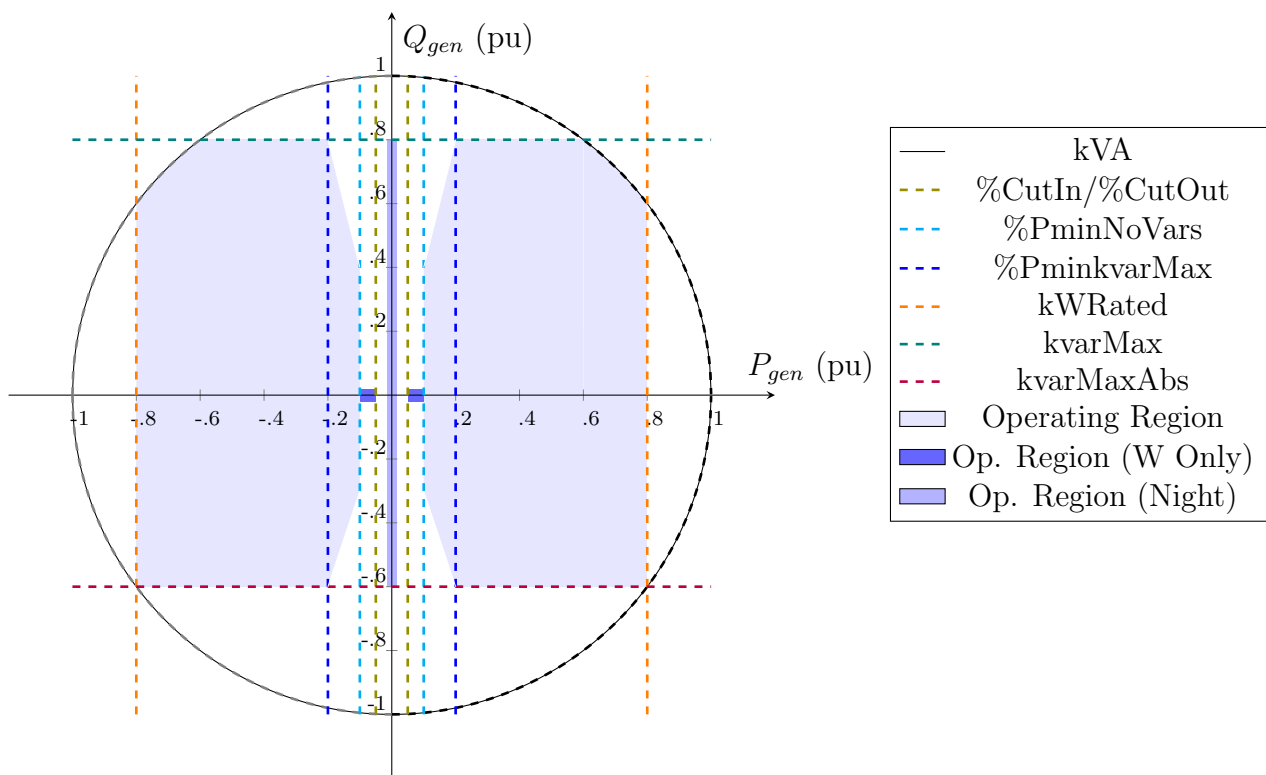

Figure 19: General Inverter Capability Curve
(8) kVA	Indicates the inverter nameplate capability (in kVA). Used as the base for Dynamics mode and Harmonics mode values. See Figure 19.
(9) %CutIn	Cut-in power as a percentage of inverter kVA rating. It is the minimum DC power necessary to turn the inverter ON when it is OFF. Must be greater than or equal to %CutOut. Defaults to 0, which means that the inverter state will be always ON for this element. See Figure 19.
(10) %CutOut	Cut-out power as a percentage of inverter kVA rating. It is the minimum DC power necessary to keep the inverter ON. Must be less than or equal to %CutIn. Defaults to 0, which means that, once ON, the inverter state will be always ON for this element. See Figure 19.
(13) kvarMax	Indicates the maximum reactive power GENERATION (un-signed numerical variable in kvar) for the inverter. Defaults to kVA rating of the inverter. See Figure 19.
(14) kvarMaxAbs	Indicates the maximum reactive power ABSORPTION (un-signed numerical variable in kvar) for the inverter. Defaults to kvarMax. See Figure 19.
(17) %PminNoVars	Minimum active power as percentage of kWrated under which there is no vars production/absorption. Defaults to 0 (disabled). See Figure 19.
(18) %PminkvarMax	Minimum active power as percentage of kWrated that allows the inverter to produce/absorb reactive power up to its maximum reactive power, which can be either kvarMax or kvarMaxAbs, depending on the current operation quadrant. Defaults to 0 (disabled). See Figure 19.
(19) kWrated	kW rating of inverter active power output. Base for Loadshapes when DispMode=Follow. Sets kVA property if it has not been specified yet. Defaults to 25. See Figure 19.